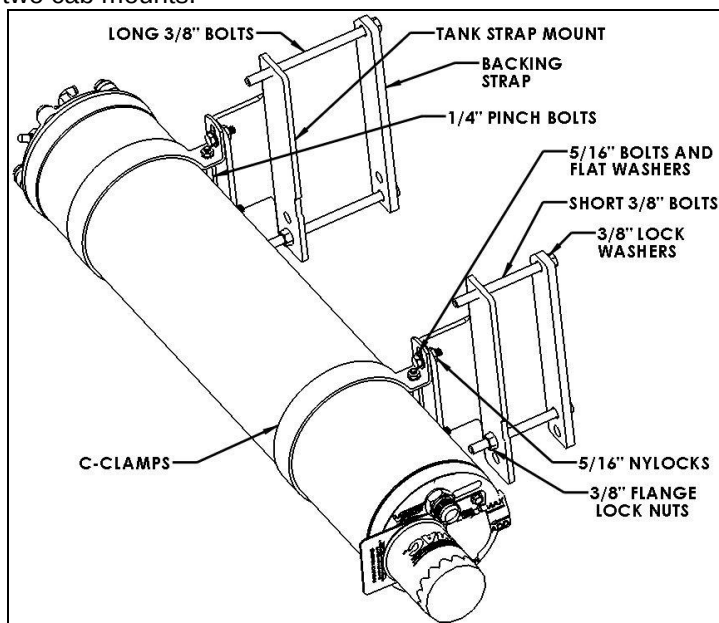

Figure 3.1
- ☐ Apply Loctite and insert 3/8" bolts through the tank flat bar backing straps and route the bolts over the top of the frame such that the flat bar is on the inside of the frame rail (Figure 3.1).